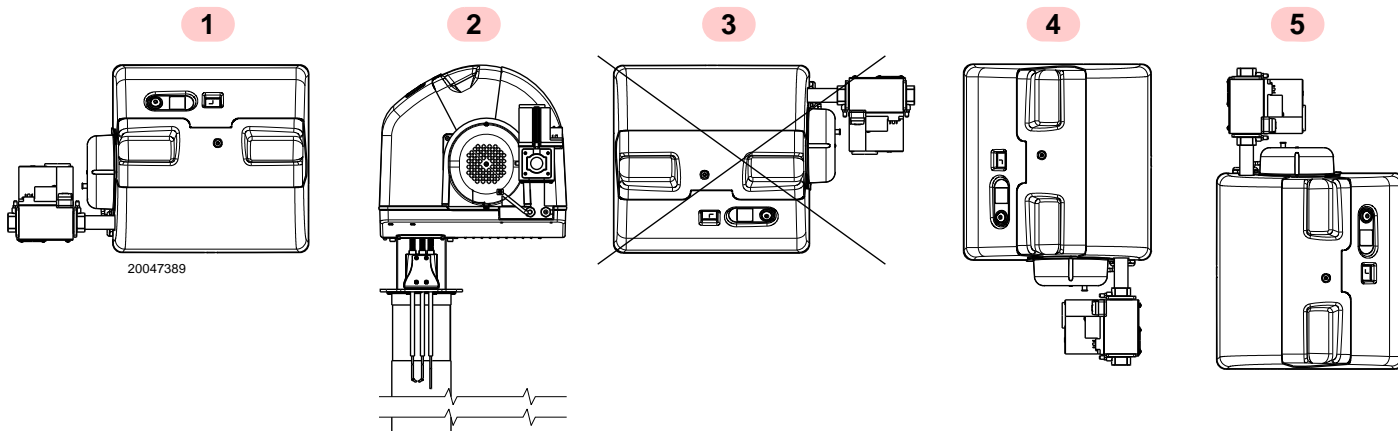

Fig. 9
- The burner is designed to operate only in positions 1, 2, 4 and 5 (Fig. 9).